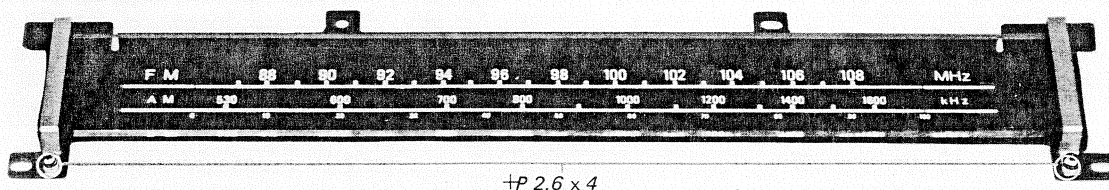

Fig. 2-12 Dial scale removal (2)
3. Now the dial scale can be removed with the back plate as shown in Fig. 2-12.
4. Remove the two screws (+P 2.6 X 4) securing the dial-scale holder to the back plate. See Fig. 2-12.